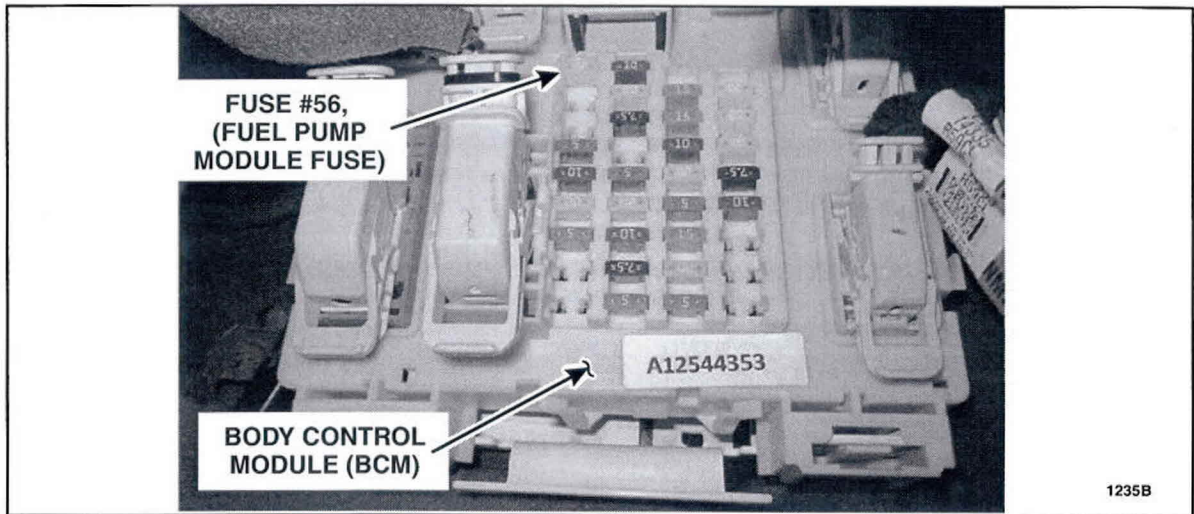

FIGURE 2
2. Remove Fuse #56 (Fuel Pump Module fuse), from the BCM. See Figure 2.